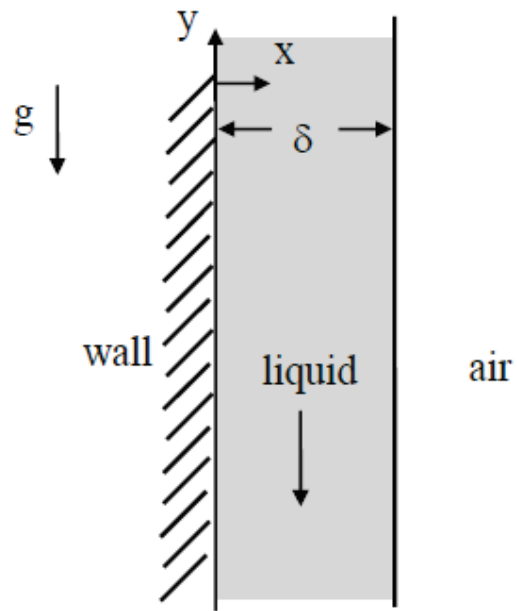

Figure 4 / *Rajah 4*
- (c). A viscous, incompressible, Newtonian liquid flows in steady, laminar, planar flow down a vertical wall (Figure 4). The thickness, δ , of the liquid film remains constant. Since the liquid free surface is exposed to atmospheric pressure, there is no pressure gradient in the liquid film. Furthermore, the air provides a negligible resistance to the motion of the fluid. Determine: